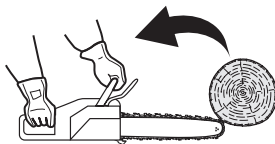

Fig. 30
In some cases, contact with the tip of the guide bar (11) may cause a lightning-fast reverse reaction, kicking the guide bar up and back toward the operator (Figs. 30 - 32).